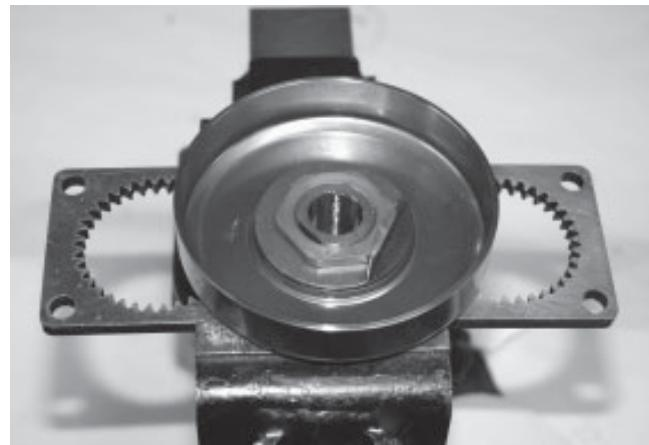

Fig. 58
- ⇒ Clamp the clutch drum in the special holding device, see Fig. 58.